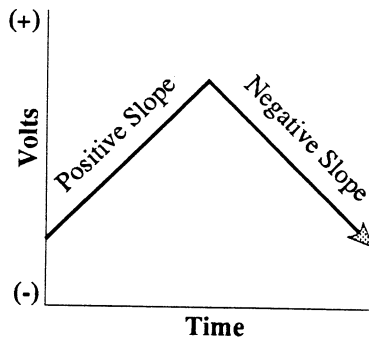

Figure 1 - The slope of the signal must match that as selected on the front panel.
2. The signal's Slope must match the front panel selection (Figure 1). See page 13-6.